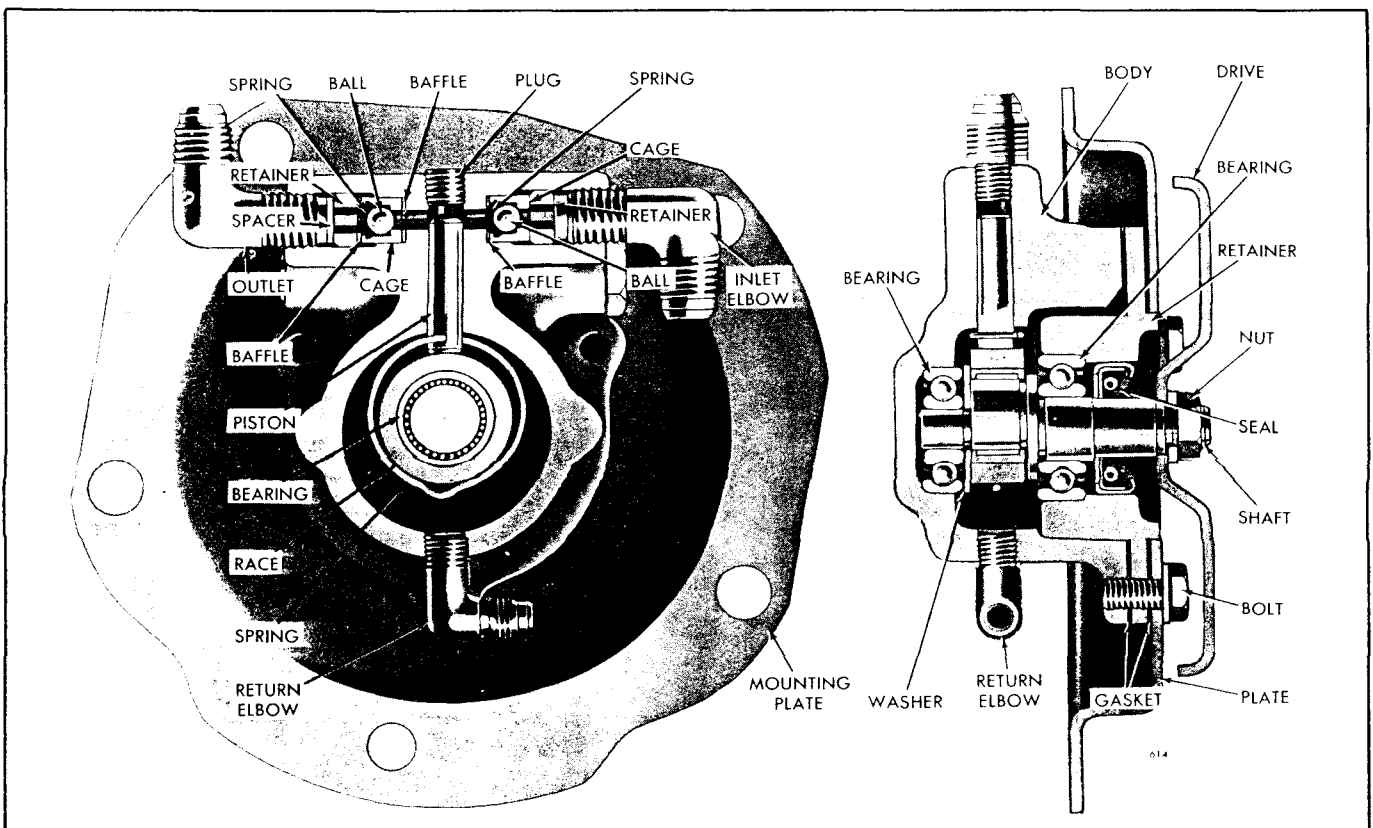

Fig. 10 - Direct Engine-Driven Hydrostarter Charging Pump
With the pump removed from the engine, refer to Figs. 10 and 12 and proceed as follows:
After cleaning, inspecting and replacing the necessary parts, refer to Figs. 10 and 12 and proceed as follows:
- c. Place the seal installer J 7191-1 over the seal lip protector J 7191-3, covering the threaded end of the shaft. Then press the seal in flush with the retainer surface. Refer to Figs. 10 and 15.